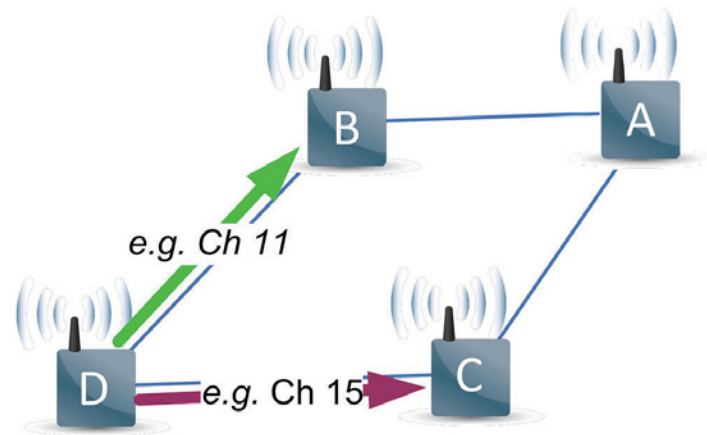

Figure 2: Path and frequency diversity – If communication fails on the green arrow, node D retries on the purple arrow using another channel and pathway
- Full Path and Frequency Diversity – Each device has redundant paths to overcome communications interruptions due to interference, physical obstruction or multipath fading. If a packet transmission fails on one path, a mote will automatically retry on the next available path and a different RF channel (see Figure 2). By exercising path diversity and frequency diversity each time (time diversity), the probability of success on each retry is higher than with a single-channel system.